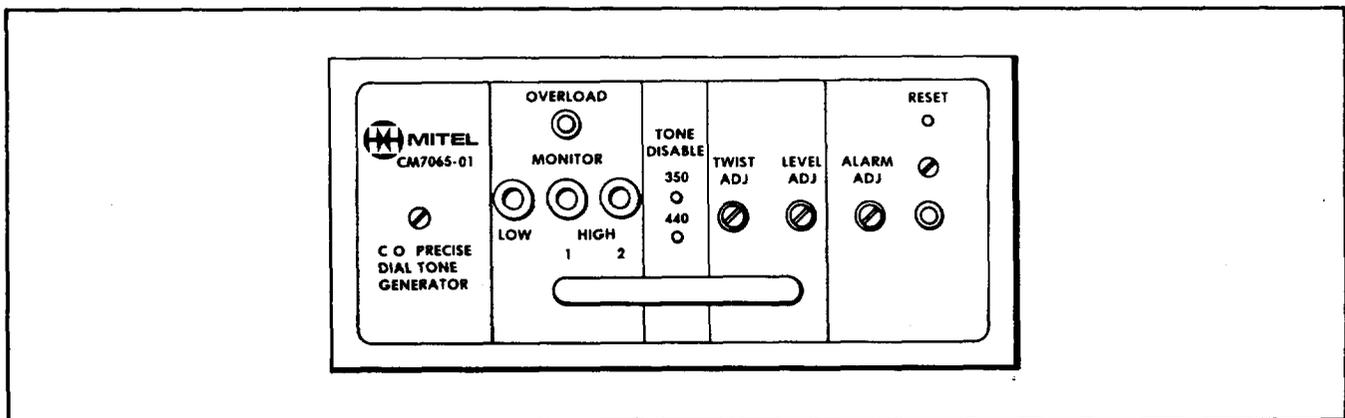

Fig. 11 Front Panel Layout
4.01 The following paragraphs contain descriptions of all front panel controls, switches, indicators and test jacks together with their functions. Refer to Fig. 11.